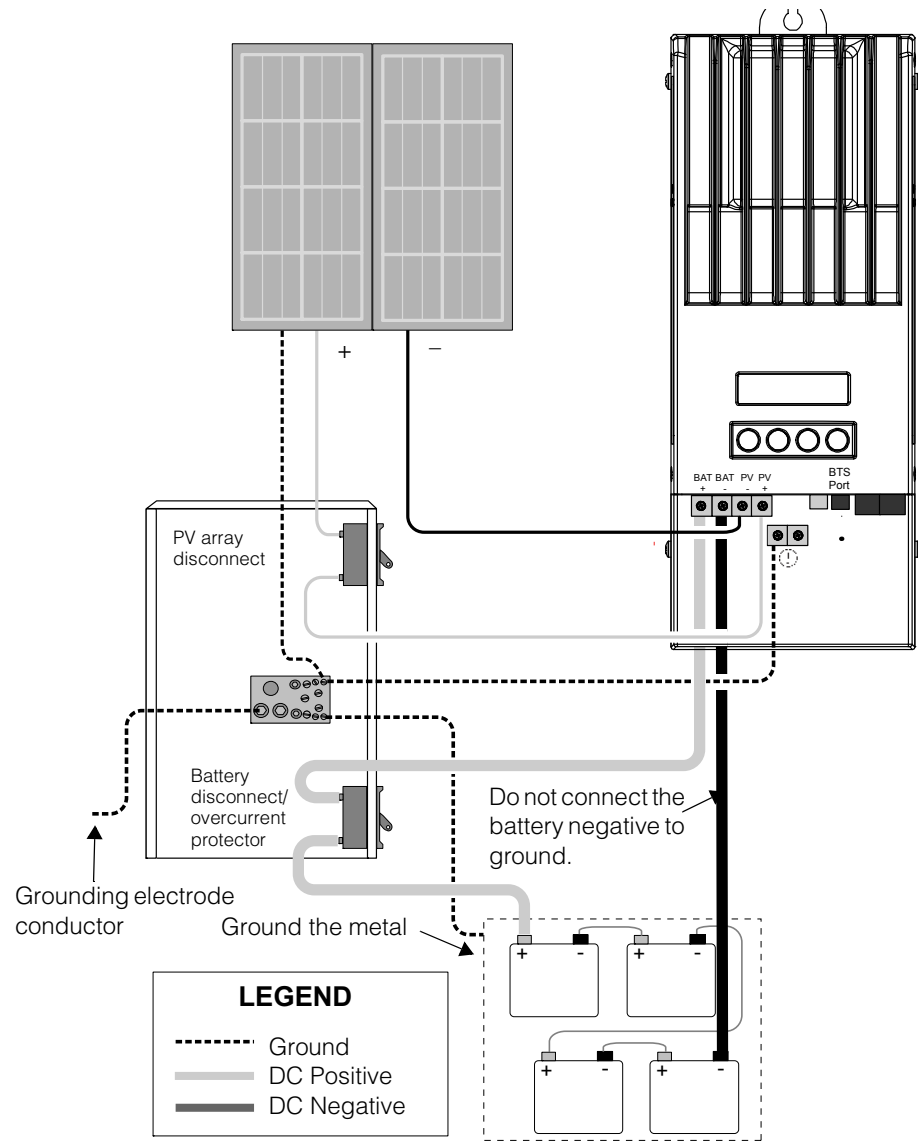

Figure 2-10 Charge Controller Power Wiring
The following procedure is illustrated in Figure 2-10.
Do not connect the battery negative to ground. Bonding the battery negative to ground disables the unit's internal PV ground-fault protection. For more information, see "Grounding" on page 2-9. See Figure 2-10 for correct routing of the battery negative.
2. Ground the solar charge controller. Connect a grounding conductor between an solar charge controller ground lug and the system ground (as shown in Figure 2-10).